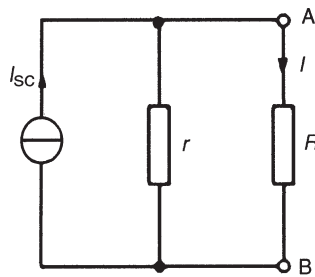

Figure 13.53
Note the symbol for an ideal current source (from BS EN 60617-2: 1996, which superseded BS 3939-2: 1985), shown in Fig. 13.53.
- determine the current  $I$  flowing in resistance  $R$  from the Norton equivalent network shown in Fig. 13.53, i.e.